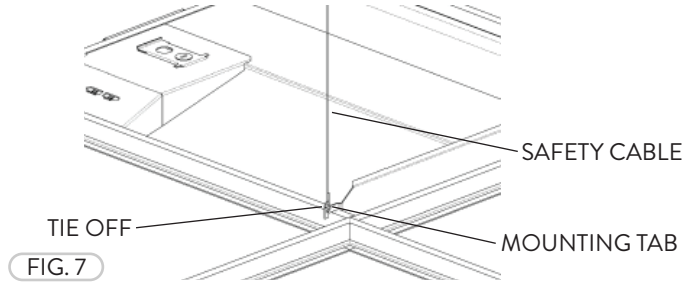

FIG. 7
- 5 Use a Safety Cable (hanger wire) to 'tie-off' at the Tabs (Screws and Hanger Wires supplied by others) (Fig 7).